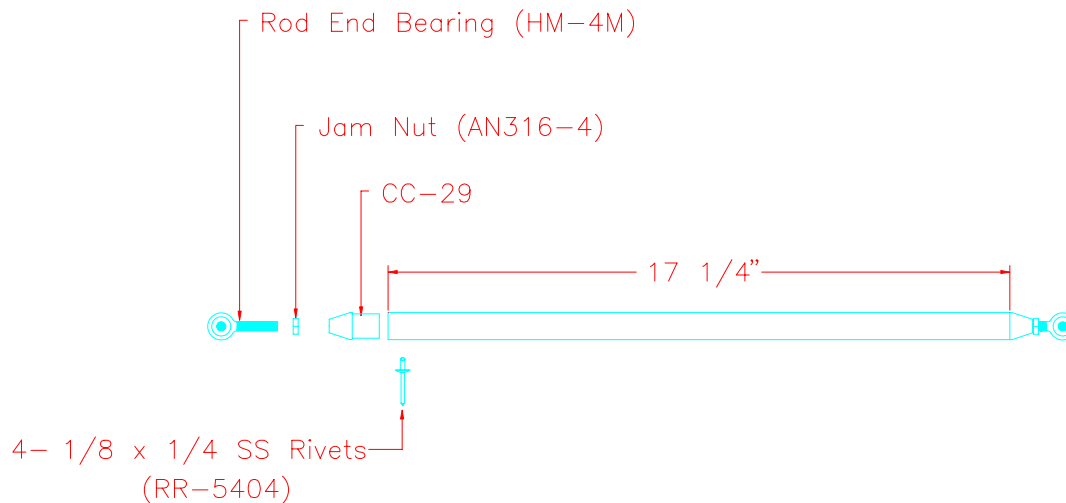

Figure 15.4.1
- 1) Make the Control Stick Connector Tube (CC-39) from 3/4" x .035" tube (RAWST-22). Figure 15.4.1.